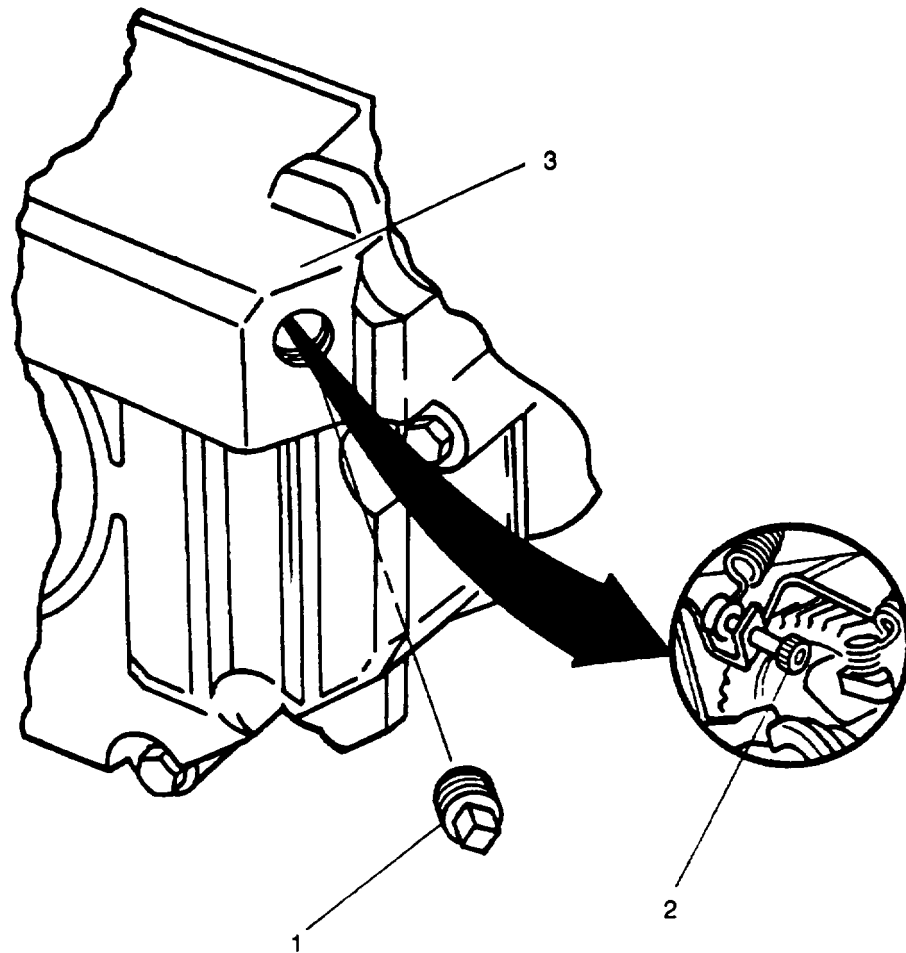

Figure 4-13. Frequency Droop Adjustment
- d. Remove plug (1, Figure 4-13) from engine governor housing (3).